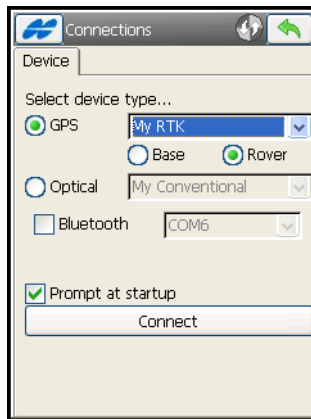

Figure 2-12. Prompt for Connection at Startup
- **Open** – opens a selected job and returns to the main screen. When opening a job after starting TopSURV, the Connection Prompt dialog will display by default (Figure 2-12 on page 2-13).
When opening a job, the **Connections** dialog displays by default (Figure 2-12 on page 2-13). Also pressing the Connection  icon on the title bar of the main menu screen opens this dialog.